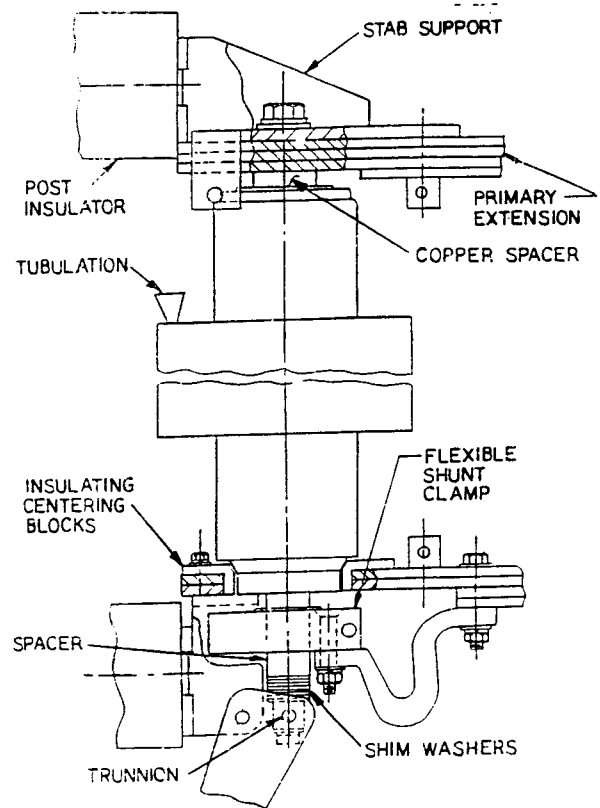

Figure 50: VS10006 2000 Amp.
- 14.3 VS10006 Interrupter in 2000 Amp Breakers (**Figure 50**).